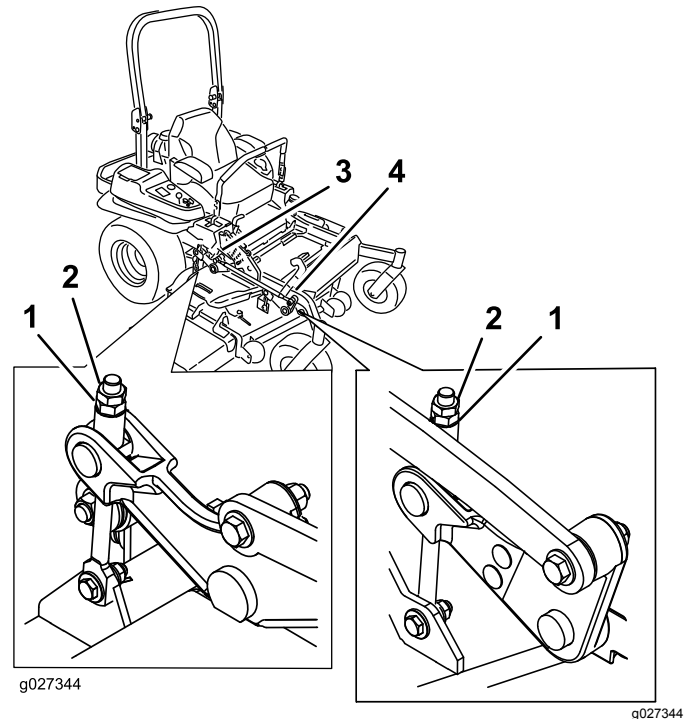

Figure 93
10. Fine-tune the adjustment nut on the front deck lift assembly by turning it (Figure 93).